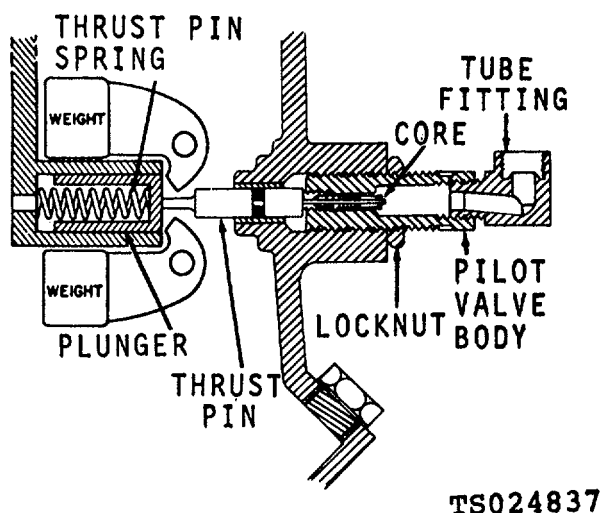
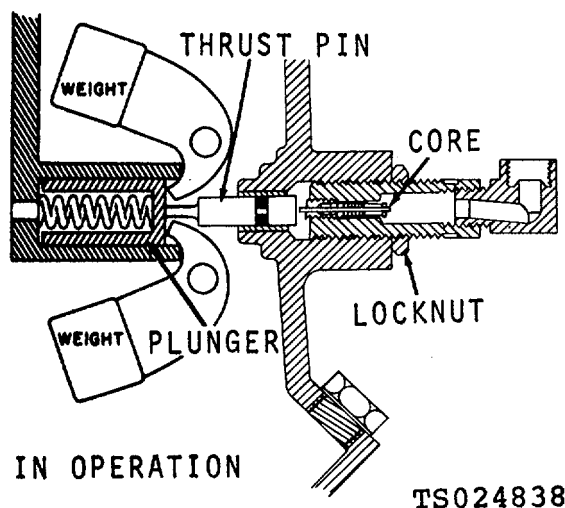

Figure 3-5. Pilot Valve adjustment.
Figure 3-6. Position of weights and core when compressor is operating.
b. *Adjustment.* To adjust the outside exhaust pilot valve, refer to figure 3-5 and proceed as follows:
- (1) Stop the compressor, remove tube fitting (fig. 3-5) from the pilot valve body. Loosen locknut and remove the pilot valve body.
- (2) Screw the pilot valve assembly into the frame cover until the thrust pin is felt, then advance valve another  $\frac{1}{4}$  to  $\frac{1}{2}$  turn and tighten locknut.
- (3) Install tube fitting into valve body, then re-connect tubing.
- (4) Start the compressor, then place hand over pilot valve tube to atmosphere (fig. 3-6).
- (5) If there is no flow of air, pilot valve is properly adjusted. When air flow is evident, readjust valve starting with step (1).